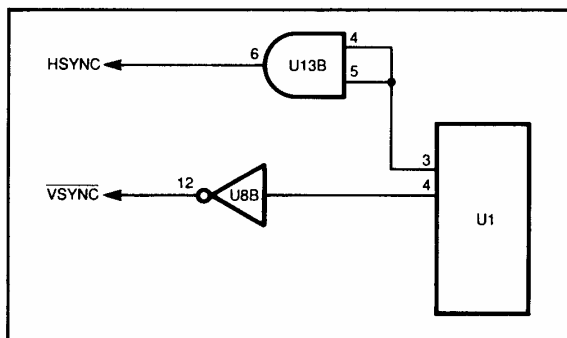

Figure 8-74. GDP Synchronization Pulses
- c. GDP Interface to the CRT. The GDP produces the synchronization pulses HSYNC and VSYNC (Figure 8-74). These pulses are buffered (VSYNC is also inverted) by U8B and U13B before going to the CRT driver PCB.